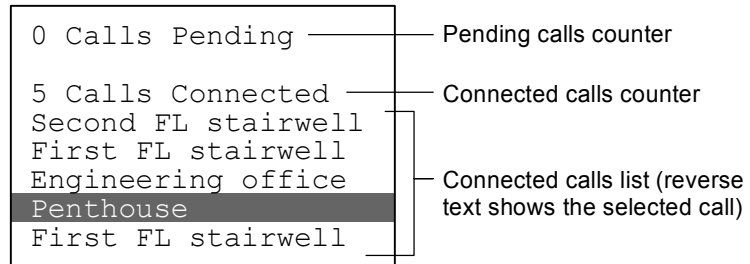

Figure 4-7: Five connected calls
Up to five phone circuits can be connected in a party line connection. A full complement of connected circuits is shown in Figure 4-7.
1. Press the Review Connected switch until the call to be disconnected is displayed in reversed text. In Figure 4-7, the Penthouse phone is selected.